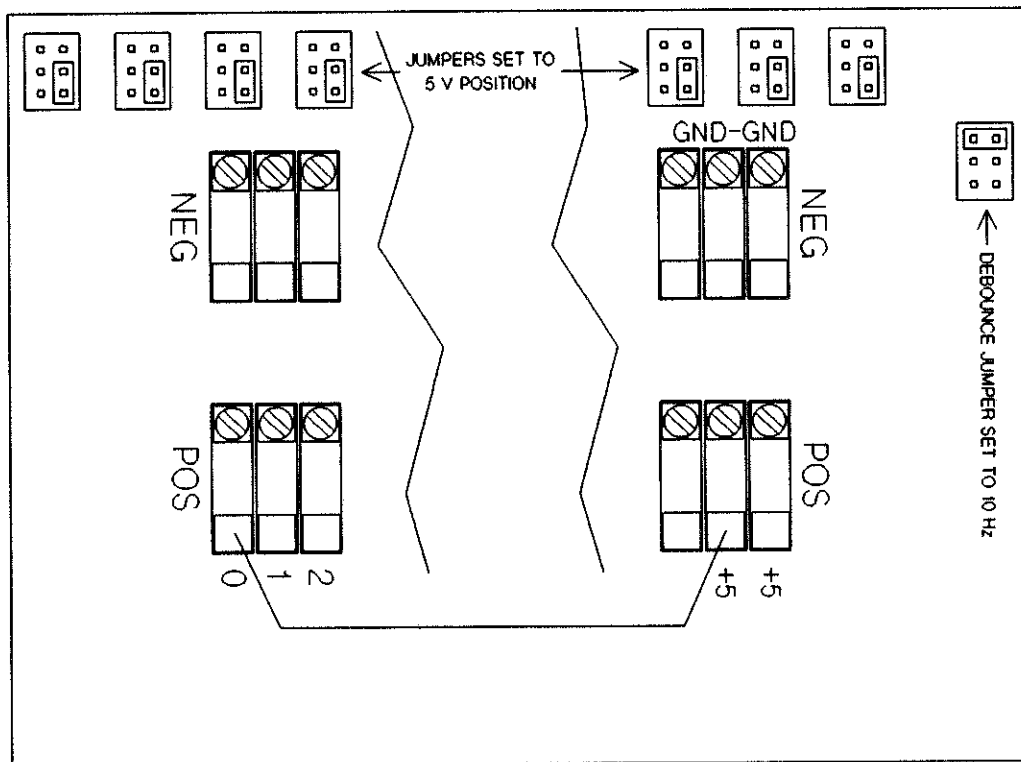

Figure 12-5 Even Channel Pattern Test
3. Set all even numbered channel inputs high by installing a jumper between the shorted even channel POS (positive) connections and the +5 V connection. The connections are shown in Figure 12-5.